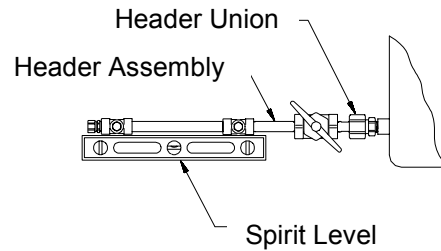

Figure 5
1. Attach the headers to the union on each side of the manifold control. Using a level, mark the placement of mounting brackets while keeping the header on a horizontal plane (Figure 5).